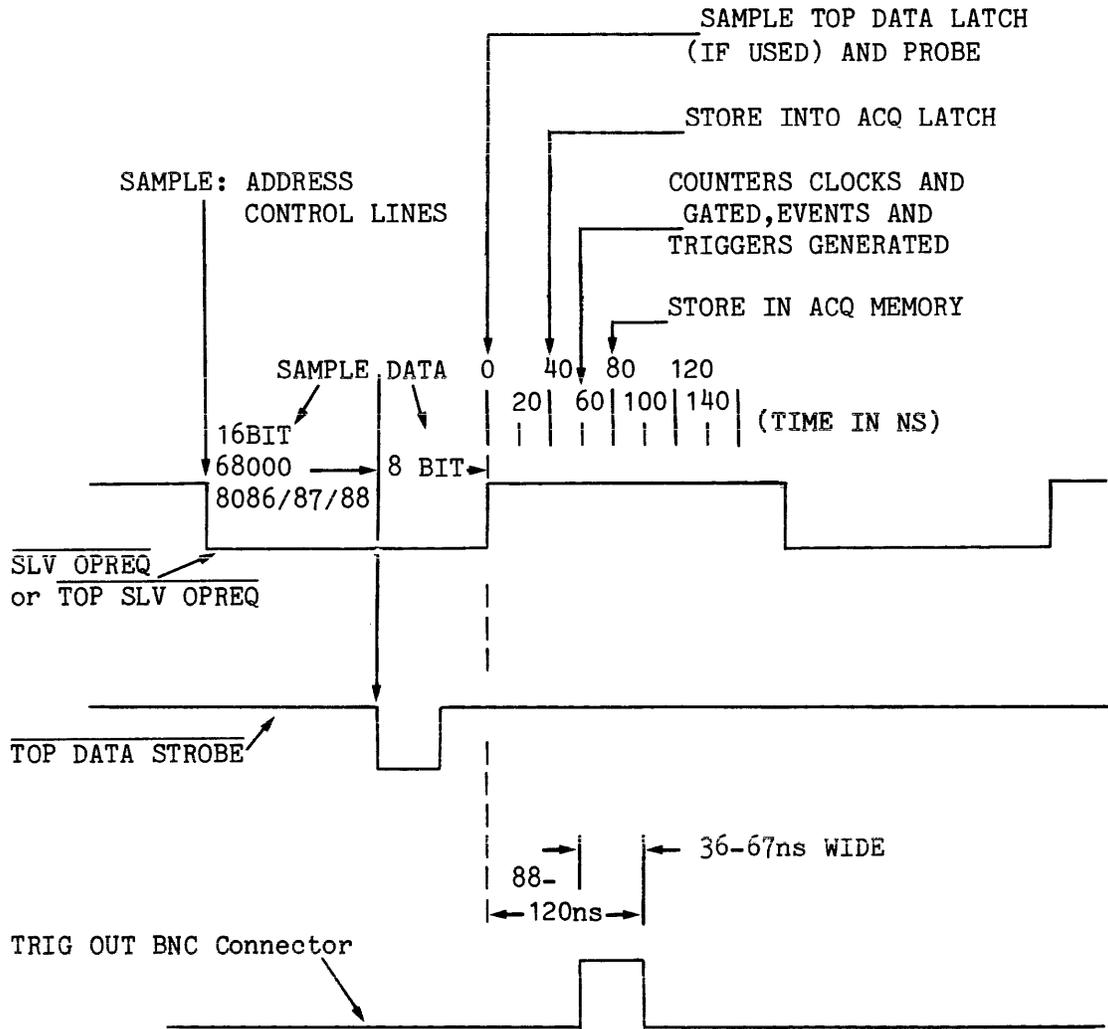

Fig. 4-1. TTA Timing Signals.
**DEFINITION OF SLV OPREQ(L) AND TOP SLV OPREQ(L) SIGNALS**
SLV OPREQ(L) is a signal generated by the active emulator and received by the TTA. This signal is the source for all timing operations when monitoring emulator bus activity. Alternatively, TOP SLV OPREQ(L) from the top plane (used by some of the newer emulators) may be used with the same timing constraints as SLV OPREQ(L). See Fig. 4-1 for TTA timing signals.